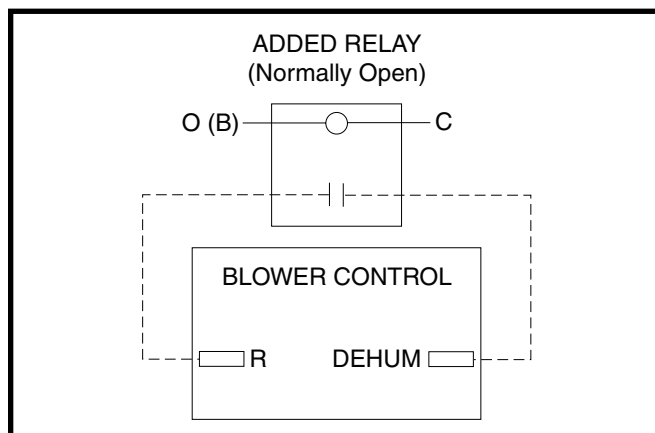

Figure 19. DHUM to Relay Wiring Configuration
to connect the **R & DEHUM** via a field supplied normally open relay. See Figure 19, \(page 22\). The **R & DEHUM** terminals should be connected across the normally open relay terminals. The O (B) & C terminals should then be connected across the relay coil. This option causes the blower to run at a reduced CFM for 10 minutes after a call for cooling.